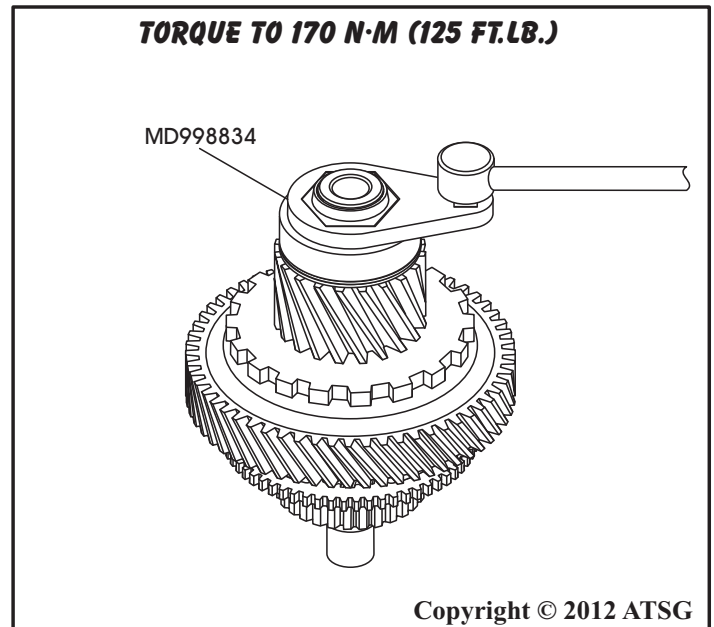

Figure 181
20. Tighten the locking nut to the specified torque using the special spanner wrench, as shown in Figure 181. Loosen the locking nut 1 complete turn and once again torque the locking nut to 170 N·m (125 ft.lb.).